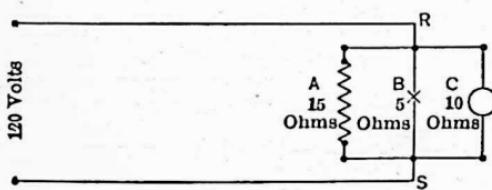

FIG. 44.
21. Parallel Circuit. Resistance. Suppose that it is desired to find the resistance of a parallel combination, as A , B and C , in Fig. 44. There are many formulas for this,